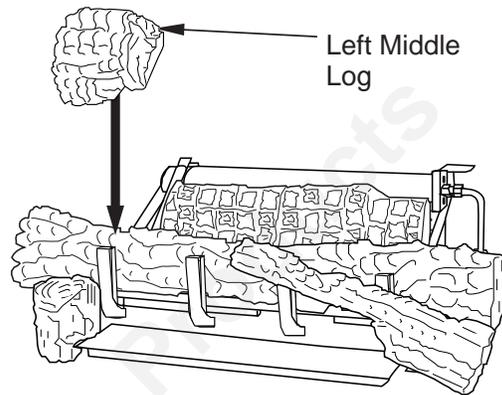

Figure 30 - Installing Left Middle Log
- The left middle log (18" D-066, 24" & 30" D-040) has a groove on the bottom to sit on the chassis and has to sit on the tab on the back of the left front log as shown in **Figure 30**.